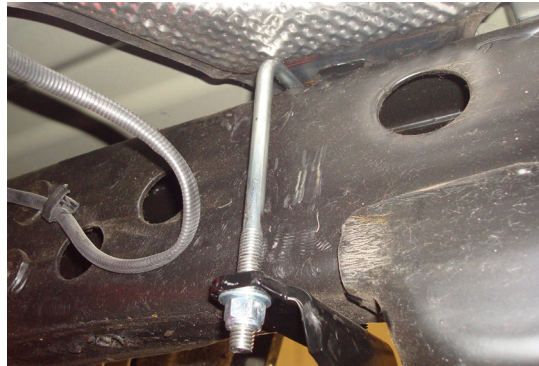

fig. 15
- Figure 15 shows the U-bolt installed on models that have the heat shield above and forward of the axle with spacer installed on passenger's (right) side. Continue with "Reattaching the Emergency Brake Cable to the Frame" section.